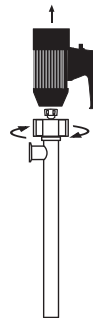

Figure 13
2. For a more thorough cleaning remove the motor from the pump tube by loosening the connection nut (see Figure 13).